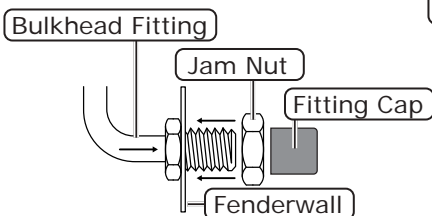

Figure 1
2. Locate the #10 bulkhead/evaporator A/C hose (See Photo 2, below), and install the end of the hose with the 90° hose fitting through the inner fenderwell (See Photo 3, below). **NOTE: The 90° bulkhead fitting will restrict the A/C hose from going through the inner fenderwell (See Figure 1, and Photo 3, below).**
4. Locate the #6 drier/evaporator hose (See Photo 2, below), and install it onto the drier with a properly lubricated O-ring (See Figure 1, above, and Photo 5, below).